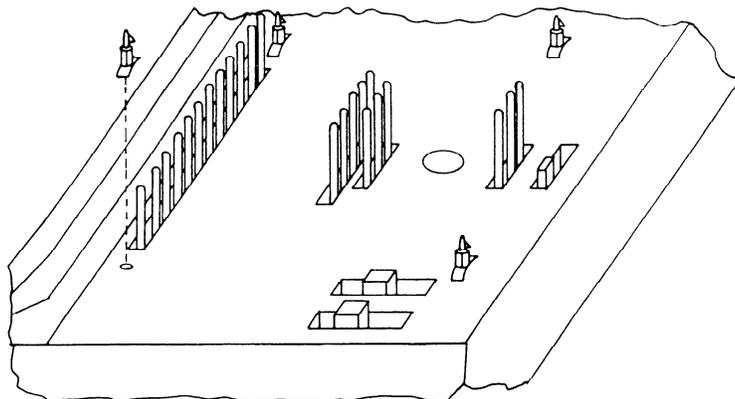

Figure 2. Mounting the Circuit Board Supports
3. Snap four circuit board supports into place as shown in figure 2 (five circuit board supports are included in this kit; one is a spare).